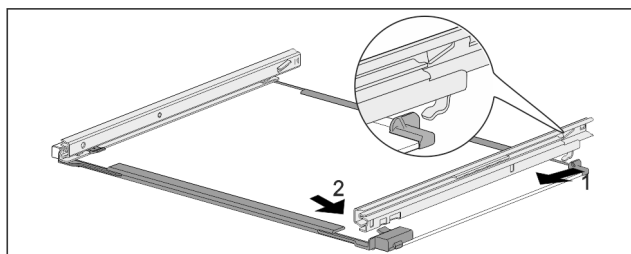

Fig. 234 Glass shelf with rails
- Hook in rail at the back. Fig. 234 (1)
- Hook in rail at the front. Fig. 234 (2)